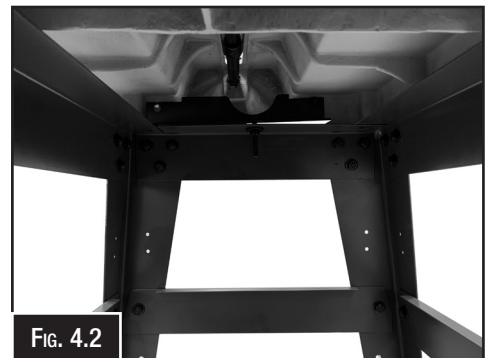

FIG. 4.2
2. Place the band saw on the stand, and secure it to the stand using a M8 x 50 mm stud and nut at the middle of the vice end and a M8 x 100 mm in the middle of the motor end. (Fig. 4.2)